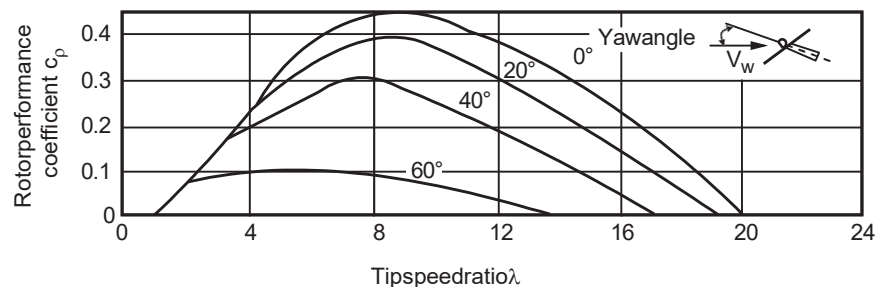

Fig. 3.12.1 Rotor performance co-efficient under skewed air flow
- Figure 3.12.1 shows the drastic drop in performance co-efficient when wind turbine is turning out of the wind. In a horizontal-axis wind turbine a yaw system turns the rotor in such a way that the wind direction is perpendicular to the swept rotor area.